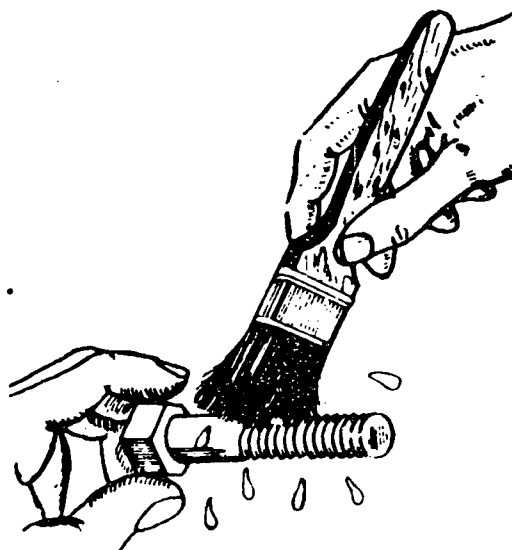

Fig. 4
- b) Clean them with a paint brush or wire brush (Fig. 4).